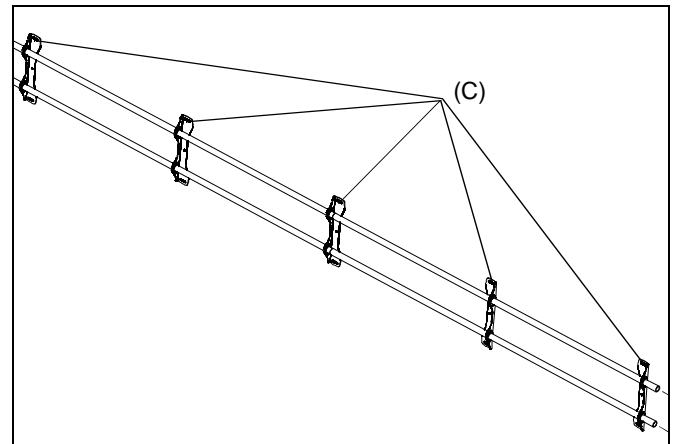

Figure 3
- Place five wall brackets (C) onto rails. (See Figure 3)